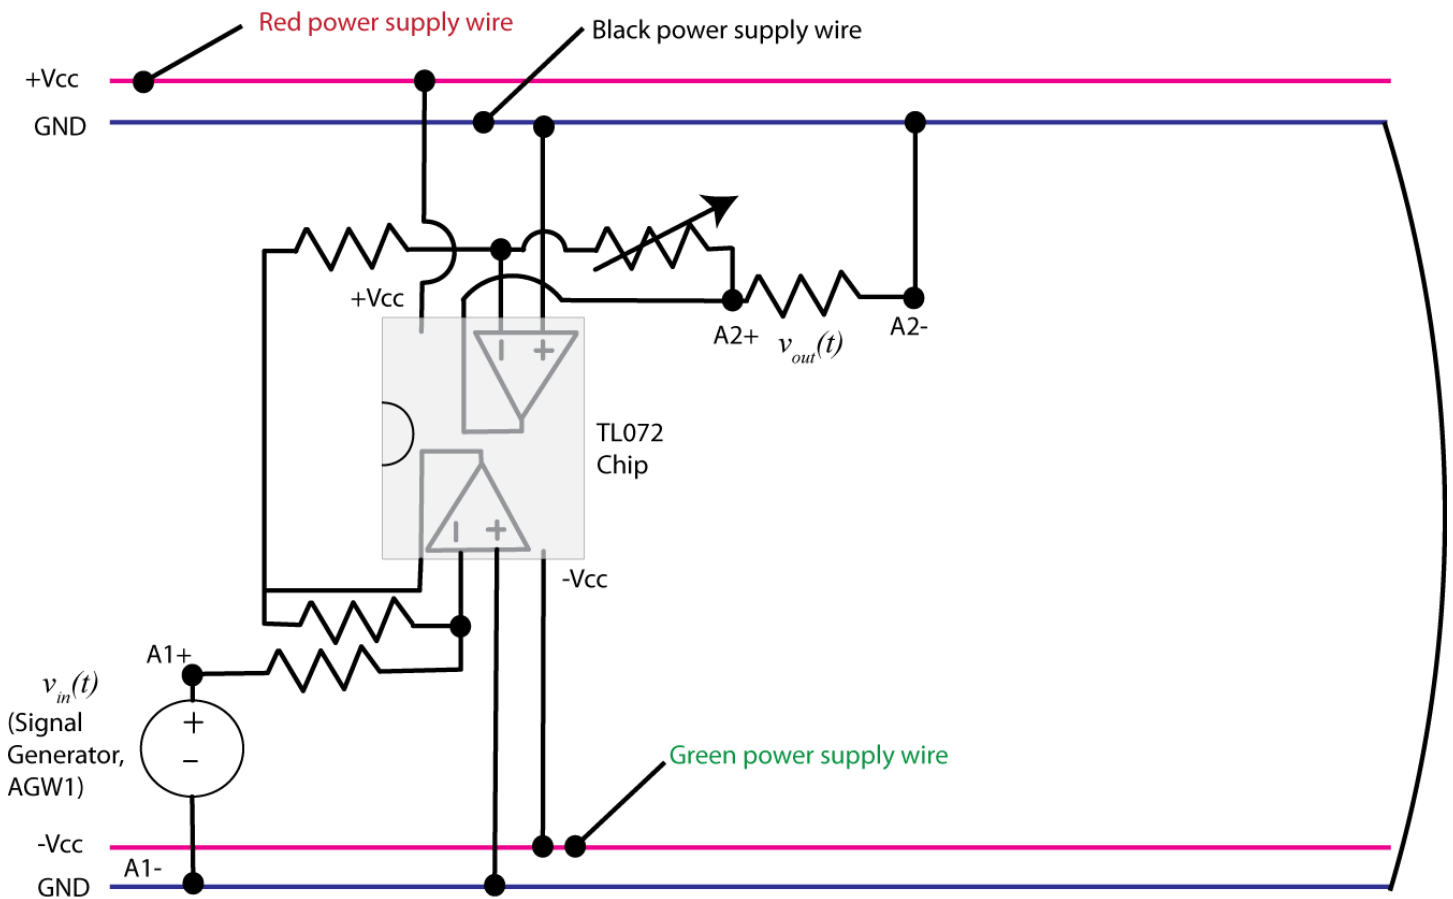

Figure 2. Prefilter (gain) circuit.
1) Build the prefilter, shown in Figure 2. We have included a load resistor for measuring the output. The input to this circuit should be the signal generator, and the output should be the voltage across the load resistor. Set the input to a 50 Hz square wave with a peak to peak value of 2.0 volts and 1.0 volt offset. Start the oscilloscope and set the input on channel 1 to **A1-Diff** and use this to measure the input signal (never trust a signal generator) and the input on channel 2 to **A2-Diff**, and use this to measure the voltage drop across the load resistor. Set channel 1 to **1 volt/div** and channel 2 to **2 volts/div** (initially). Set the **Time/Div** to 2.00 ms and the **Mode** to **Y-T**. The coupling should be set to **DC** for both channels. As the variable resistor is changed, you should be able to get an amplitude from 0 to approximately 4 volts. Before you go on, set the variable resistor so the output is that same as the input, but *be sure the change the scale on channel 2 to 1 V/division before your do this*, so the scale is the same for channel 1 and channel 2. Once this is working, disconnect the load resistor and function generator and disconnect the power to the circuit.
4) Build the proportional controller (a simple gain amplifier). Follow the same steps as in the prefilter (Step 1, Figure 2). Test this in the same way as you tested the prefilter. Before you go on, set the variable resistor so the output is the same as the input.